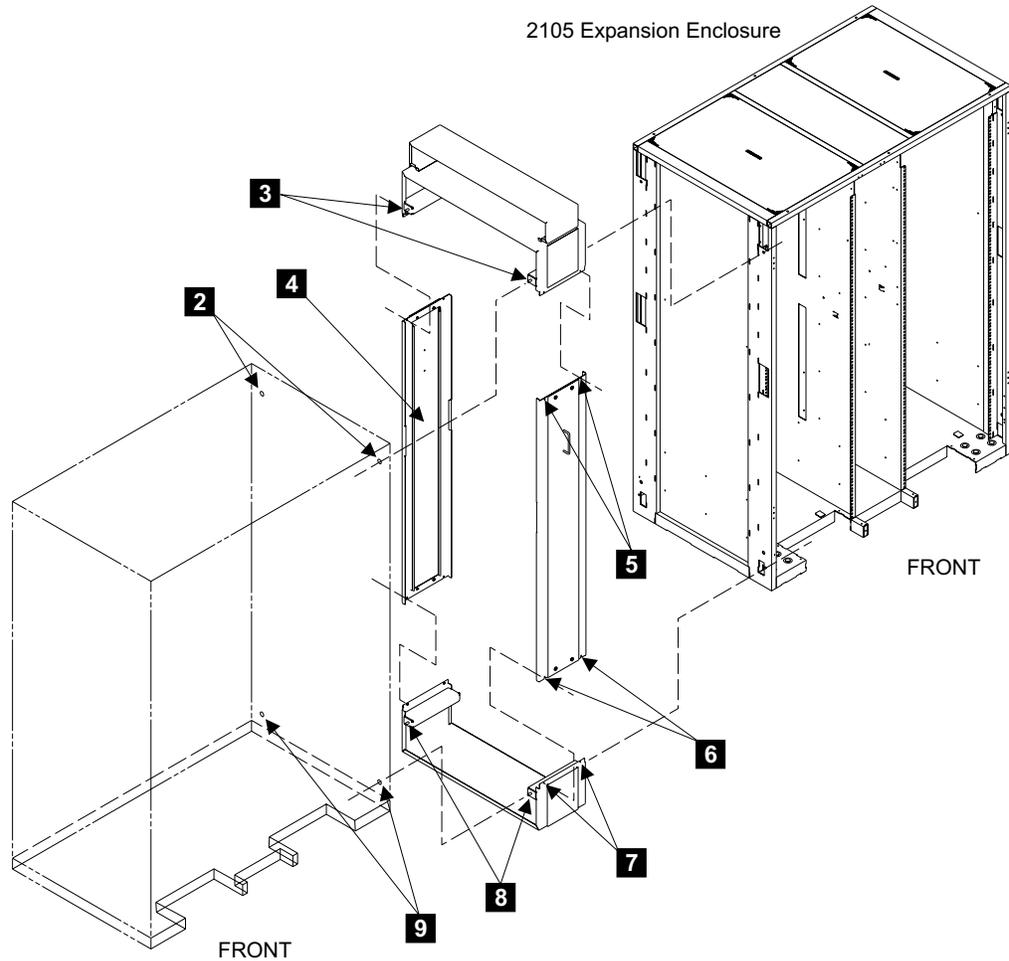

Figure 357. Installation of 2105 Rack Spacers (S008699q)
- a. Refer to Figure 357 on page 364.